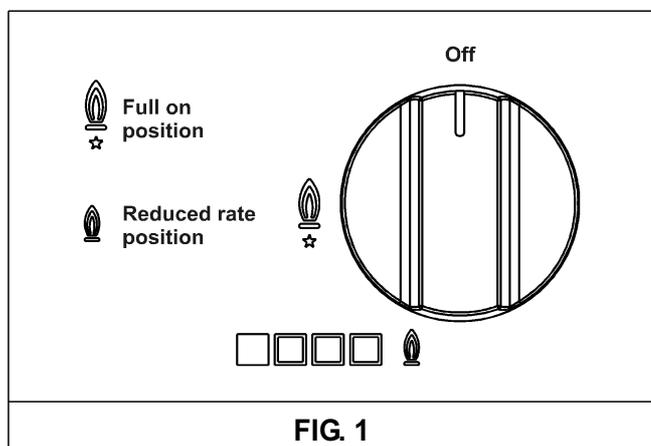

FIG. 1
Push and turn the knob corresponding to the required burner in an anticlockwise direction until it reaches the full on position (large flame fig. 1), then place a lighted match near the burner.
Push and turn the knob corresponding to the required burner in an anticlockwise direction until it reaches the full on position (large flame fig. 1), then depress and release the ignition button "E".
Push and turn the knob corresponding to the required burner in an anticlockwise direction until it reaches the full on position (large flame fig. 1), then depress the knob.
The knobs of burners equipped with flame failure device must be turned in an anticlockwise direction until they reach the full on position (large flame fig. 1) and come to a stop. Now depress the knob in question and repeat the previously indicated operations.
- When the pan comes to the boil, set the knob to the reduced rate position (small flame fig. 1).
- **burners with flame failure device may only be ignited when the relative knob has been set to the Full on position (large flame fig. 1).**